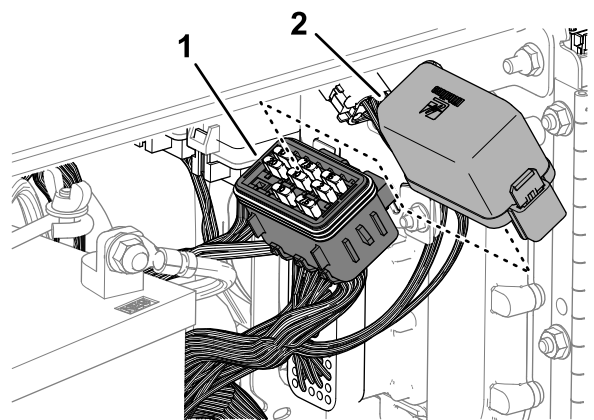

Figure 161
2. Remove the cover from the fuse block (Figure 161).